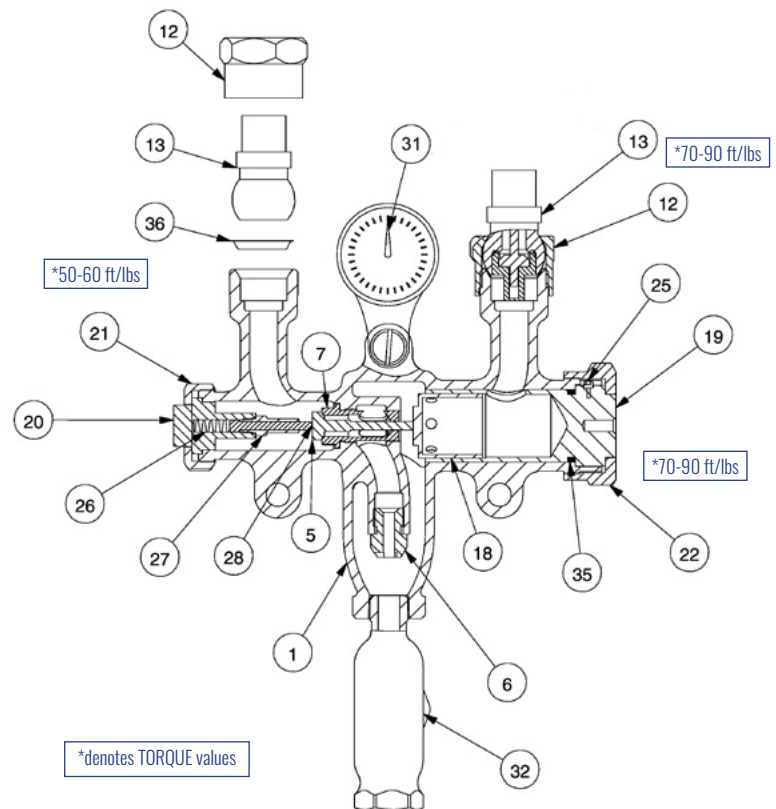

Figure 5: M-5000TG/M-5700TG parts assembly.
6. The new poppet can now be installed using the same tool, guide assembly, and guide nut being careful not to overtighten (see TORQUE values in Fig. 5).